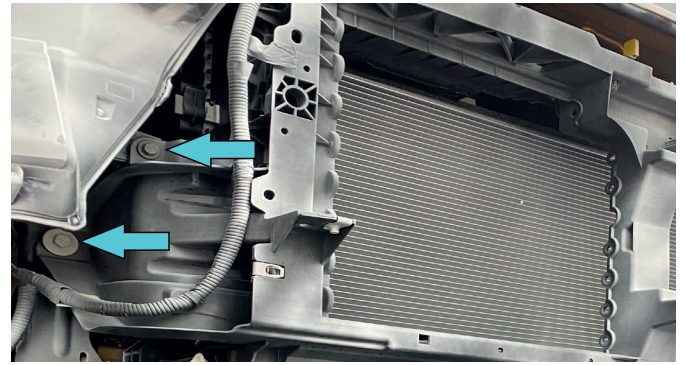

Fig.37
37. Unscrew OE bolts on both sides of the vehicle (fig.37).